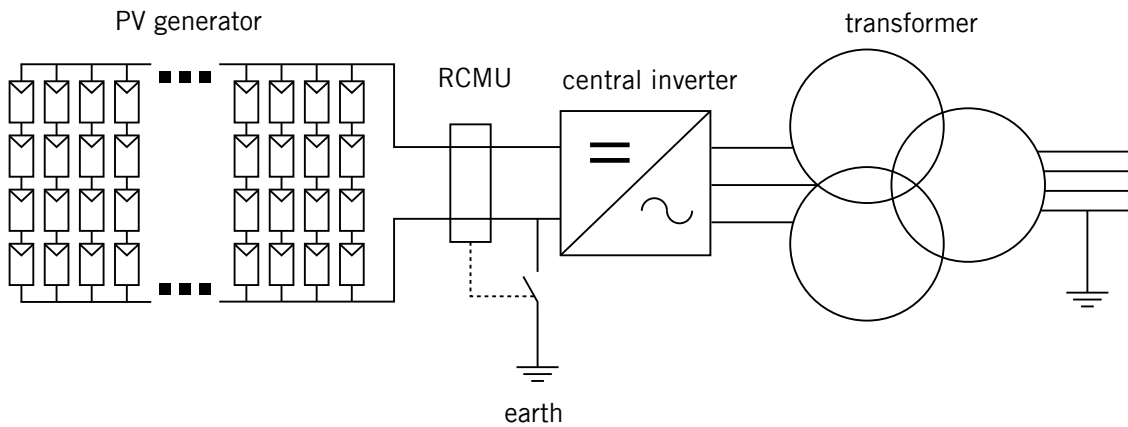

Fig. 9: Separation of ground connection without resistor
- **Separation of ground connection without resistor** (Figure 9): As an alternative, a ground connection without resistor can be used, however, a residual current monitoring unit (RCMU Type B) must be installed on the DC side. Such devices are capable of detecting currents of up to 30 mA within 0.4 s and are typically programmable. This allows equalizing current peaks to be bridged reliably. At high currents flowing for longer periods of time, the ground should be disconnected and an alarm triggered.